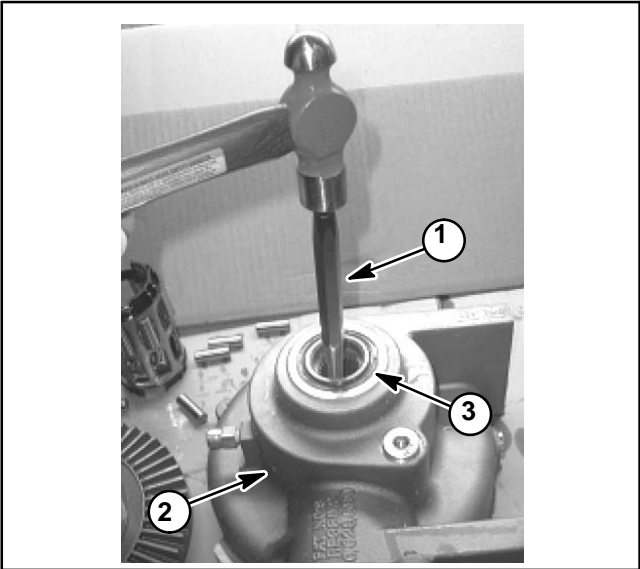

Figure 17
11. Turn the gear case over. Using a hammer and a suitable drift, carefully remove the output hub and bearing by driving it in toward the center of the gear case (Fig. 17). The bearing has a slight interference fit to the bore of the gear case. Take care to not damage the oil seal in the gear case during hub removal.